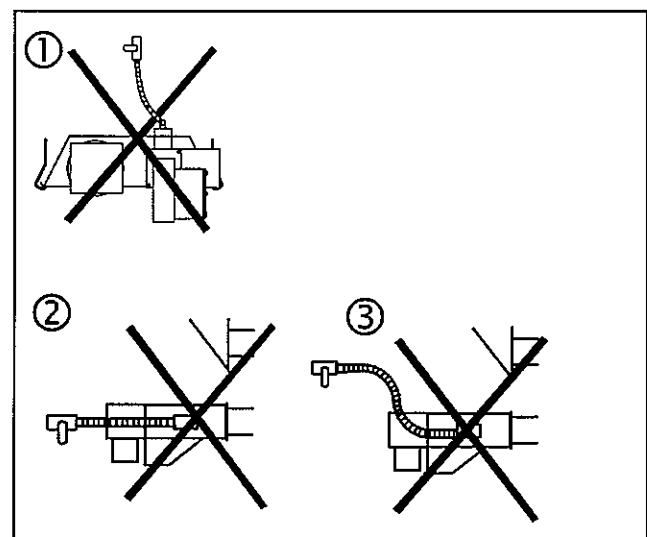

Fig. 17: Wrong mounting of flexible hoses
- ⇒ Wrong mounting of flexible hoses shown in Fig. 17 (sketches ① to ③)